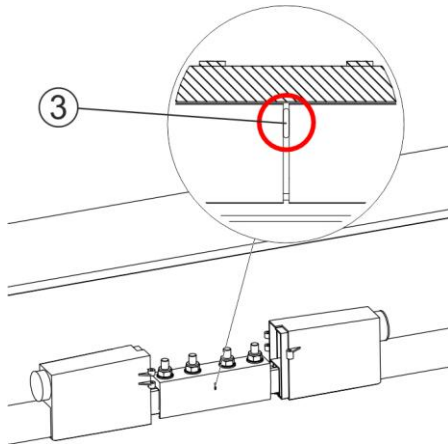

Fig. 74: Slide the second end of the rail into the connector
- Slide the conductor bar of the second rail end up to the stopper (Pos. 3) of the connector (see Fig. 74).